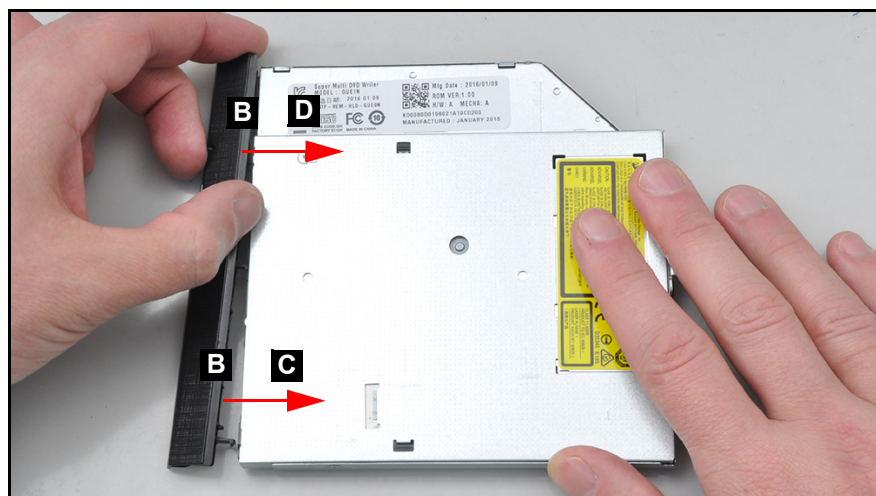

Figure 3-121. Replacing the ODD Module
3. Attach the ODD bezel (B) to the left side (D) of the ODD tray, and then attach it to the right side (C) (Figure 3-121).